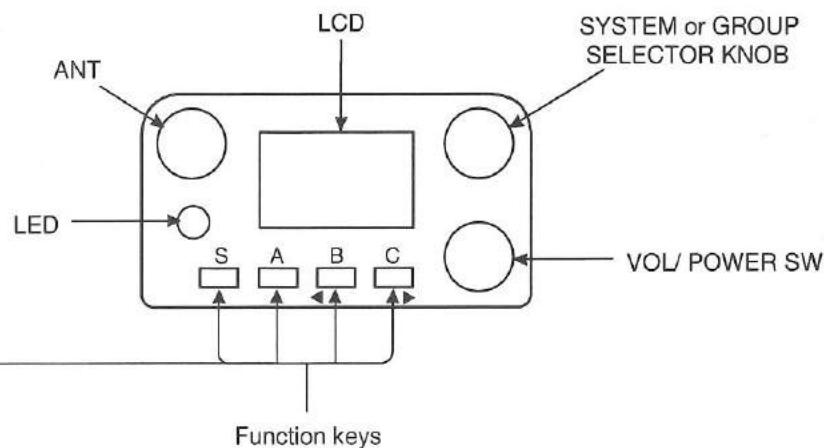

Fig. 1
2. Transceiver Controls and Indicators(Fig.1)